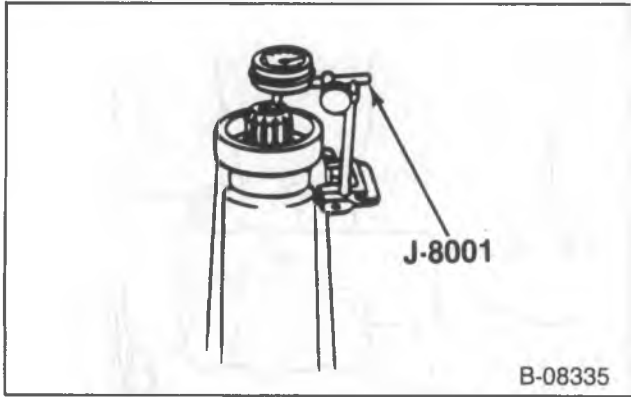

Figure 36—Measuring Mainshaft End Play
- Front thrust race (611) and a new snap ring.
- Countergear thrust bearing (612).
- Plastic funnel (615) into the bearing.
- Extension housing (613) and the screws.
- Turn the transmission on end and mount a dial indicator of the extension housing (figure 36).